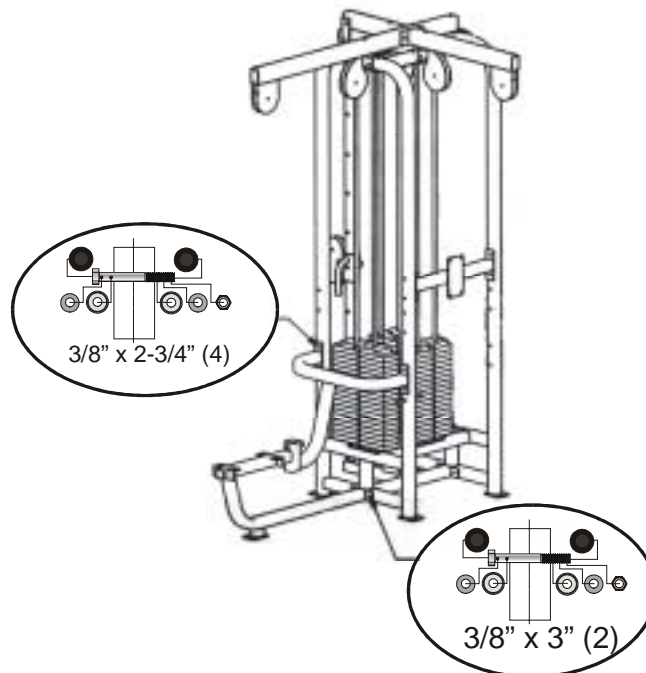

Figure 11. Mount the bench to the frame.
- 7. Mount the lat bench to the frame.** Using the bolts specified and 9/16" socket and combination wrenches, mount the bench to either side of the frame as shown in Figures 11 and 12.